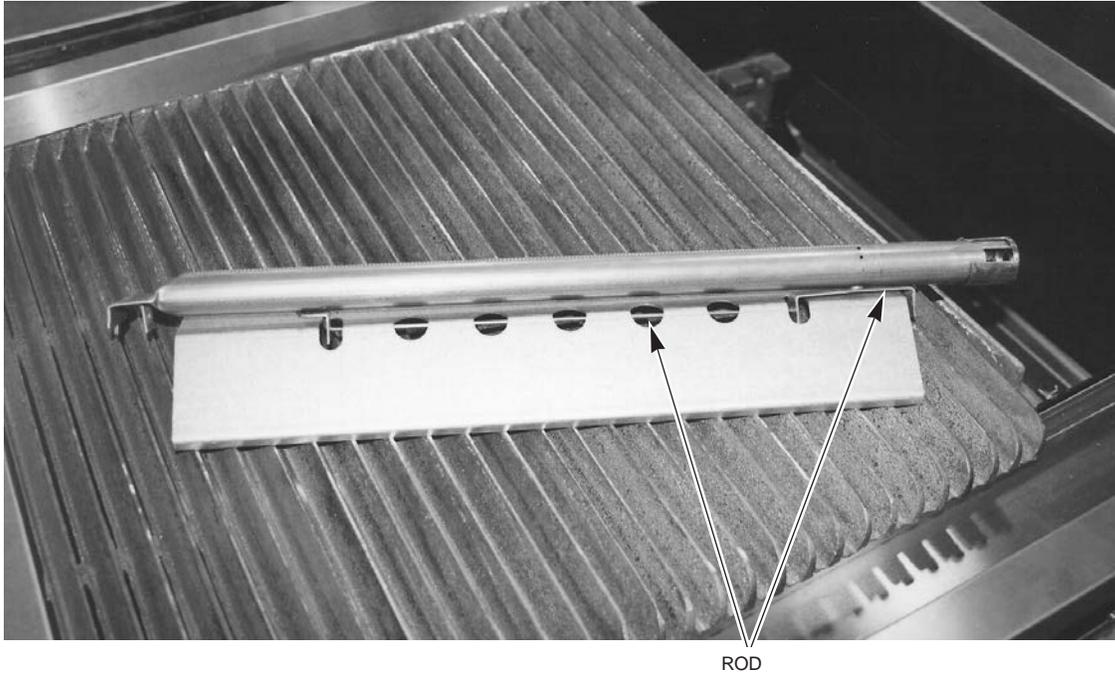

**Fig. 7**
4. Lift the front end of the radiant up. (Fig. 7)
5. Lift the radiant back end up off of the radiant support. (Fig. 7)